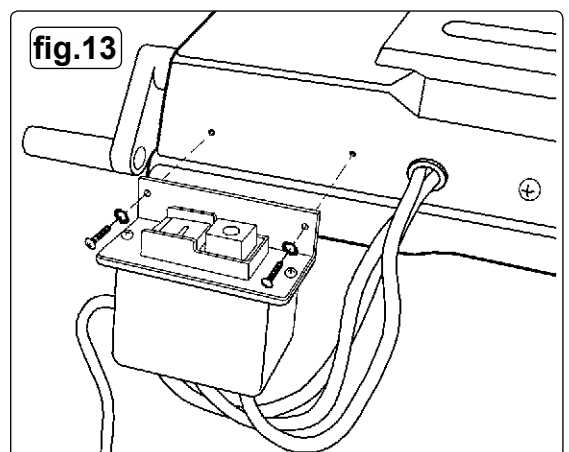

fig.13
4.7.1. Fit the switch box using the screws provided, see fig.13.